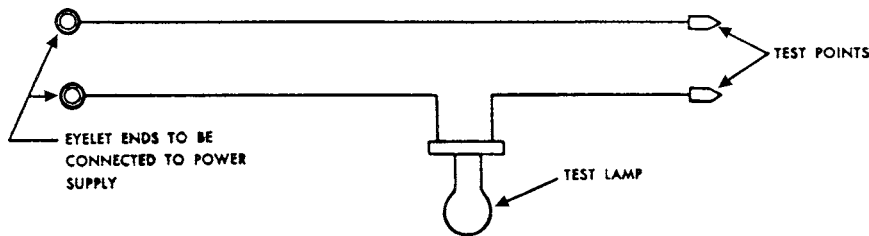

Fig. 12-29 Continuity test cord and lamp. (Tecumseh)
- Continuity test cord and lamp as shown in Fig. 12-29. Electrical instrument requirements can be covered by a tester manufactured by Airserco Manufacturing Company.